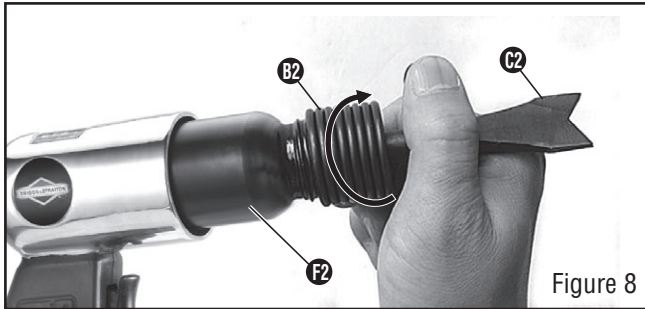

Figure 8
4. Screw the spring retainer (B2) onto the cylinder (F2) and firmly secure it. (See Figure 8)